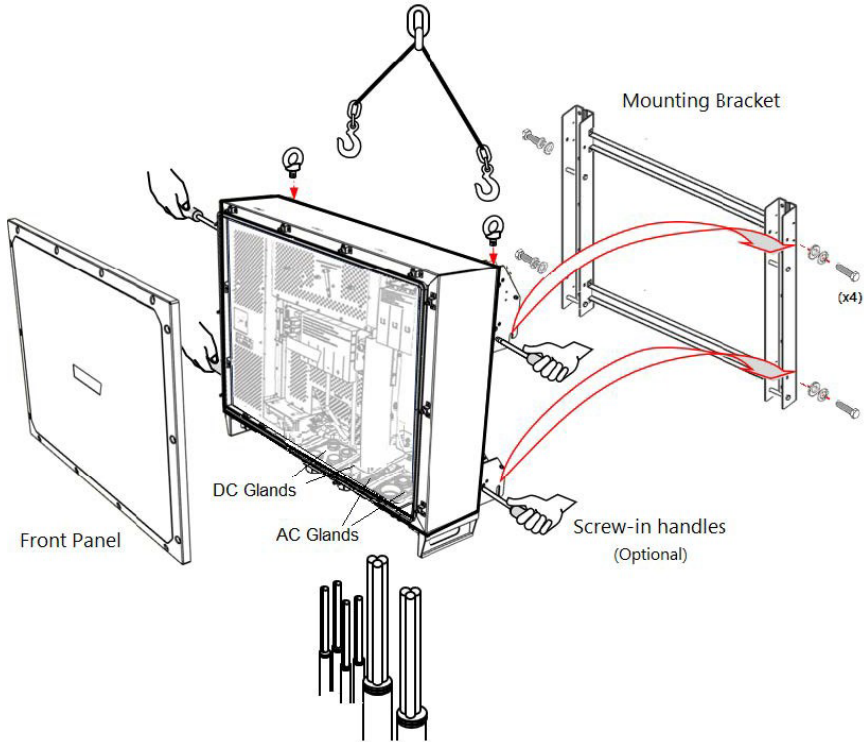

Figure 27 Mounting the inverter when the wiring is already laid down
1. If optional screw-in handles are used, anchor the screw-in handle to any point at the inverter (see Figure 27).
10. Connect the L1, L2, and L3 wires to the terminal block according to the labels on the terminals. Tighten the nuts to 35 N*m (see *Figure 27*).